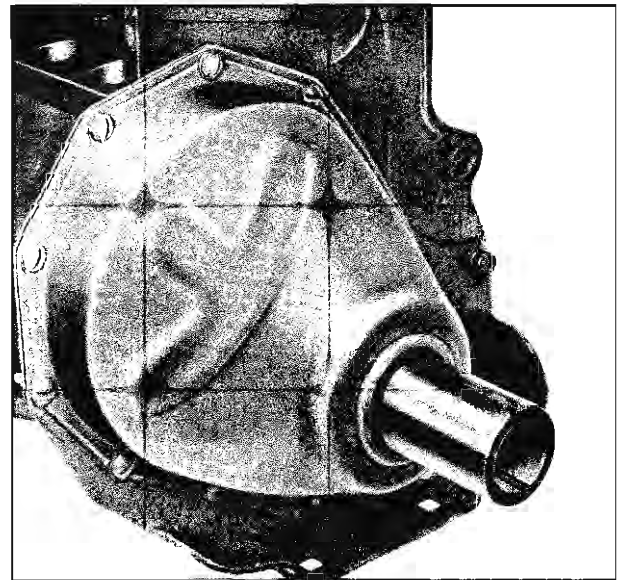

Fig. 21—Timing Gear Cover Installation
3. Coat the oil seal with light grease and using a new cover gasket install cover and gasket over centering gauge (fig. 21).